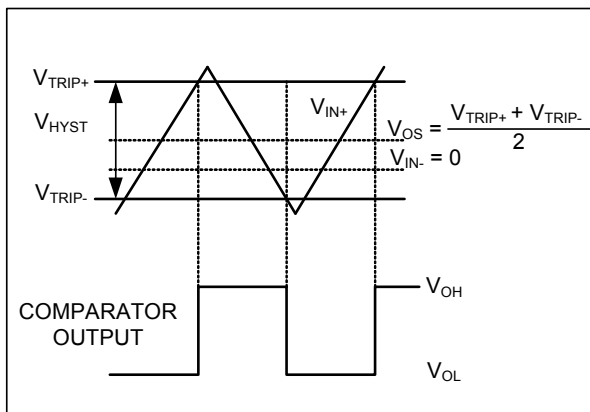

Figure 1. Input and Output Waveform,
3. V_{OS} is defined as the center of the input-referred hysteresis zone. See Figure 1.
4. The input-referred trip points are the extremities of the differential input voltage required to make the comparator output change state. The difference between the upper and lower trip points is equal to the width of the input-referred hysteresis zone. See Figure 1.
The hysteresis in a comparator creates two trip points: one for the rising input voltage and one for the falling input voltage (Figure 1). The difference between the trip points is the hysteresis. The average of the trip points is the offset voltage. When the comparator's input voltages are equal, the hysteresis effectively causes one comparator input voltage to move quickly past the other, thus taking the input out of the region where oscillation occurs. Standard comparators require hysteresis to be added with external resistors. The SGM8747's fixed internal hysteresis eliminates these resistors. To increase hysteresis and noise margin even more, add positive feedback with two resistors as a voltage divider from the output to the non-inverting input.
Figure 1 illustrates the case where $IN-$ is fixed and $IN+$ is varied. If the inputs were reversed, the figure would look the same, except the output would be inverted.